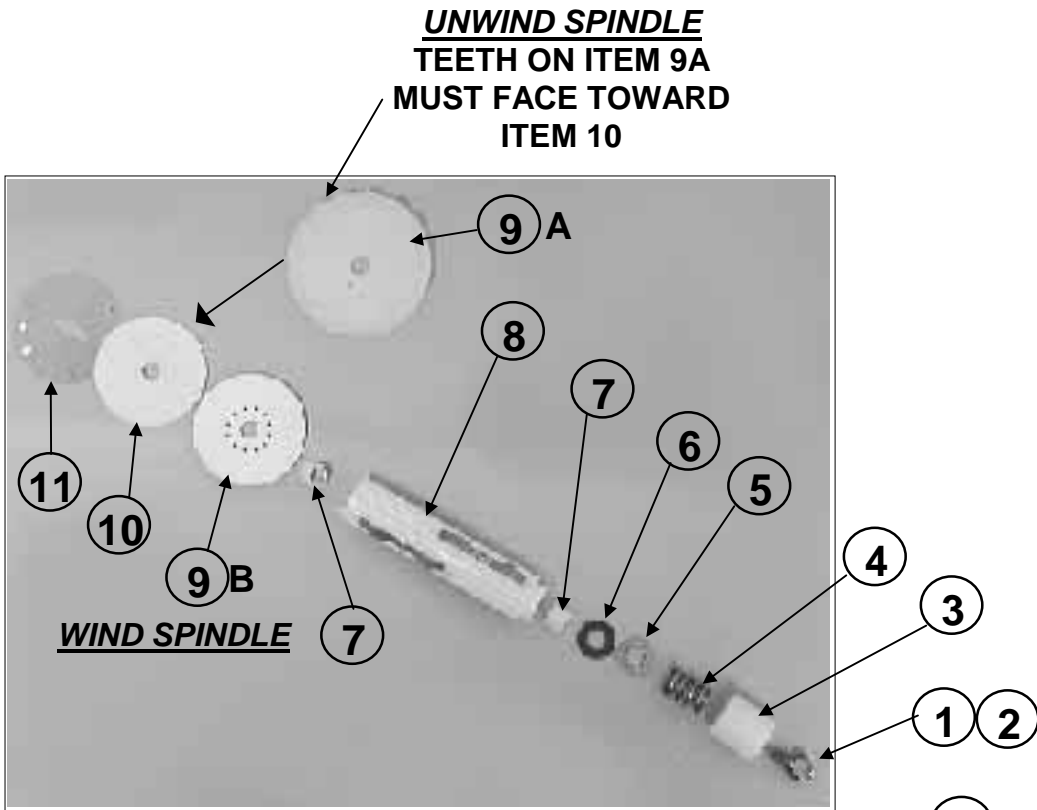

Fig. 6-47
3.	Remove the following parts from two spindle shafts (in order): Fig.6-47
Refer to **Fig.6-47 & 6-48.**
5.	Remove Ribbon Unwind Spindle components down to Hold Plate Item 11 to allow access to the sensor connector which is routed to the PCB. Fig.6-47, 6-52 & 6-53.